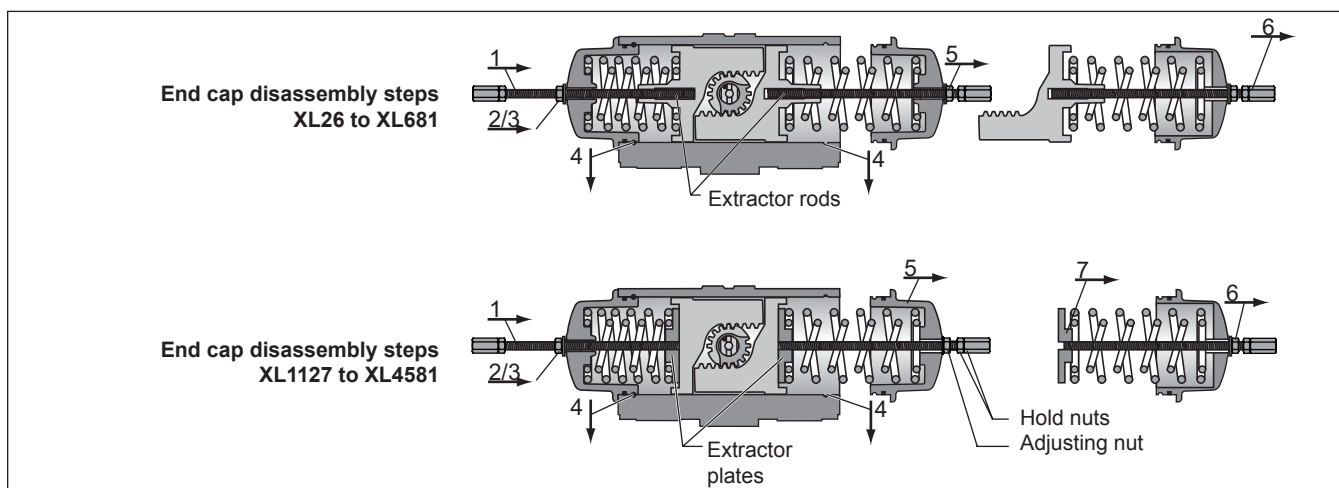

Fig. 5 End Cap Disassembly
- 1 Release Locking Nuts (24) and remove both Travel Stops (22) and Thread Seals (23) or ‘O’-rings (23a).
- 2 Remove the Indicator (7) from the top of the Pinion (19) For XL26 to XL221 use an Allen key size 4mm. For the larger sizes the Indicator can be pulled from the pinion top.
- 3 Remove both Sealing Bolts (28) and seals (29) from the End Caps (21).
- For XL 26 to XL 681 the Pistons (20)
- For XL 1127 to XL4581 the Retractor plate (20a, see also Fig 5) until travel is stopped (DO NOT OVERTIGHTEN) and take care the nut and washer being free of the End Cap face.
- 7 Prevent the “hold-nuts “ to rotate by one wrench. Use another wrench, to screw both adjusting nuts half turn at a time (see Fig. 5) clockwise down the Rods until the end cap loosens (Maximum; approximately two complete turns). This draws the;
- For XL 26 to XL681 the Pistons (20)
- For XL 1127 to XL4581 the Retractor plate (see also Fig 5) to the end caps (21) and compresses the springs. This Spring-compression, releases the Spring force and un-locks the SAFEKEY for removal.
- 10 When both SAFEKEYS have been removed, use a wrench to rotate the Pinion, driving the pistons (20) apart until they partially push the End Caps from the Body.
- For XL 26 to XL681 the Pistons (20), springs and end cap will come out
11 To keep the Spring Pack Assembly intact (see Fig. 5), leave the Retractor Rod in place. To disassemble the Spring Pack, unscrew the adjusting nut on the Retractor Rod relieving the Spring force, while preventing the rod from turning with a wrench on the hold nuts.